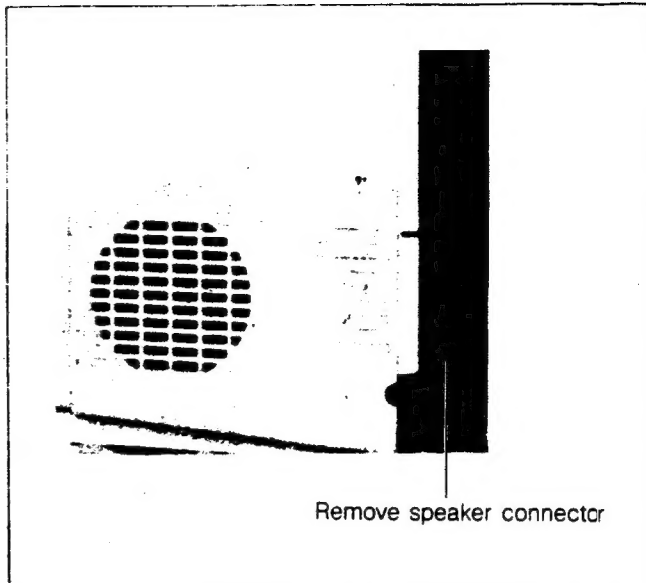

Fig. 4
3. Remove (pull to the rear) the speaker connection near the audio output at the left side of the cabinet. (See Fig. 4)